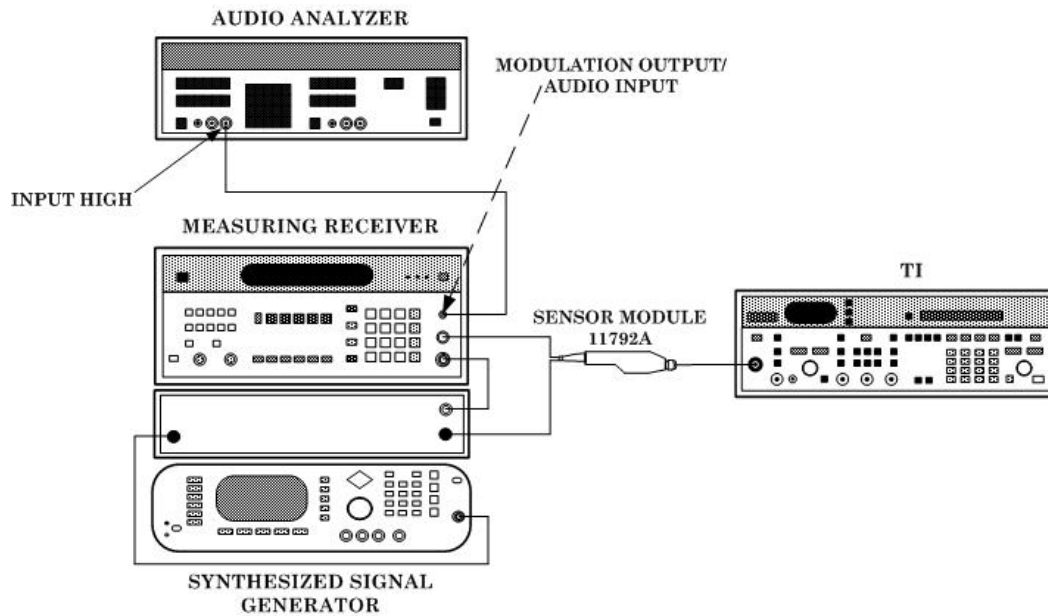

Figure 2. Frequency resolution hookup.
(1) Connect the local oscillator **10 MHz REF OUT** to the measuring receiver **TIME BASE 10 MHz INPUT**.
(2) Connect TI **10 MHz OUT** (rear panel) to the local oscillator **10 MHz REF IN** connector.
(3) Finish connection as shown in figure 2.